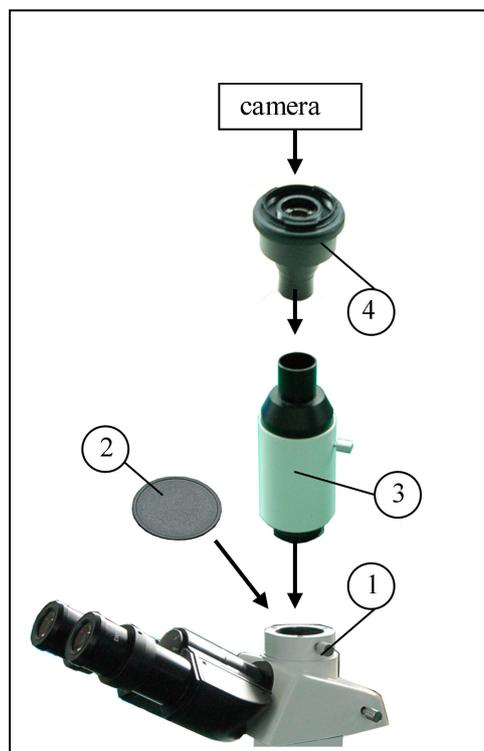

Fig 3
4.2.2 Installing the photography set (Fig.3)